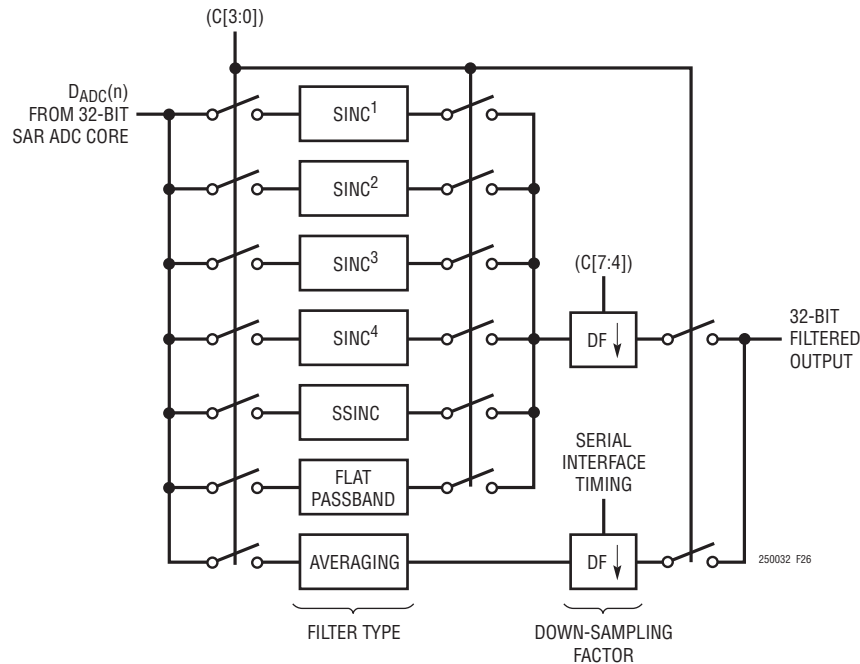

Figure 26. Digital Filter Block Diagram
The LTC2500-32 offers seven digital filter types that are selected and configured through the digital interface with the C[3:0] bits in the configuration word. The filter types are:  $sinc^1$ ,  $sinc^2$ ,  $sinc^3$ ,  $sinc^4$ , spread-sinc (ssinc), flat passband and averaging as shown in Figure 26. The output of the selected digital filter type is multiplexed into a down-sampler with a programmable down-sampling factor (DF).